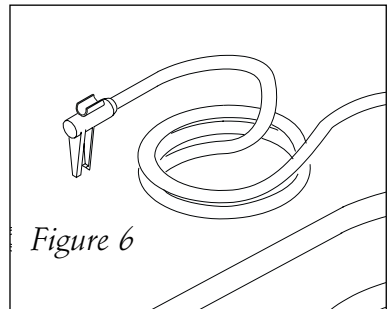

Figure 6
This tube should be placed in a clean glass or polycarbonate container to collect the purified water. The special clip allows you to clip the hose to the side of container and is also used to plug the end of the product water tube to keep it sanitary. Take care to keep this tube away from dirt and contamination. (see figure 6)
5. Remove the plastic sleeve from the end of the bottle clip. (see figure 6) Failure to do this will result in the sleeve being shot into the container. Place the clip on the edge of a container and place it in the sink.